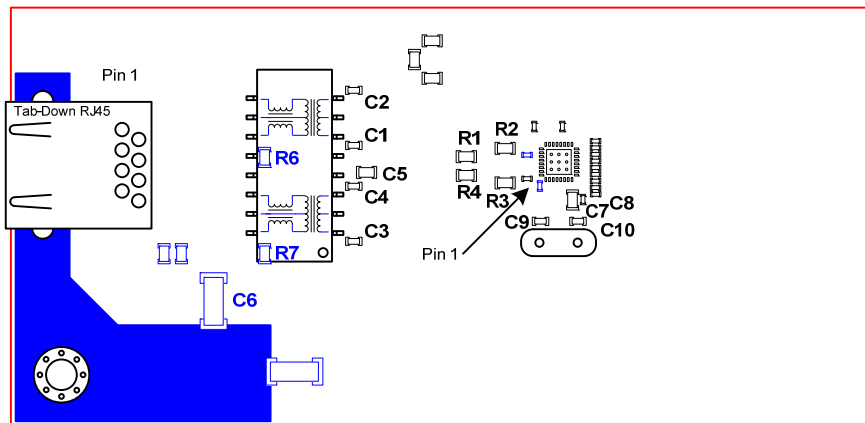

Figure No. 1
5. See Figure No. 1 for the placement of the termination resistors for the differential pairs for the LAN8740 Phy. These resistors are R1, R2, R3 & R4 in Figure No. 1.
6. Place the four optional, low-valued, common mode capacitors for each differential signal as close as possible to the magnetics. They should be placed as to create the smallest possible stub. These caps are C1, C2, C3 & C4 in Figure No. 1.
3. See Figure No. 1 below for the placement of the center tap termination components for the LAN8740 Phy. These resistors/capacitors are C5, R6, R7 & C6 in Figure No. 1.